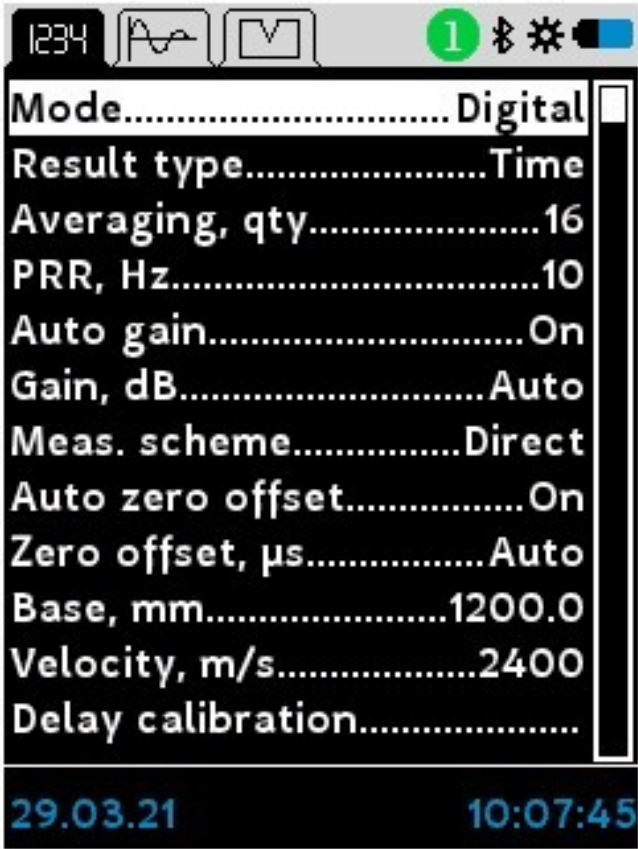

Figure 1: Power indicator
To use AC power connect the USB-Cable ① to the charger ② and the instrument. Plug the charger to the power supply network, Figure 1: